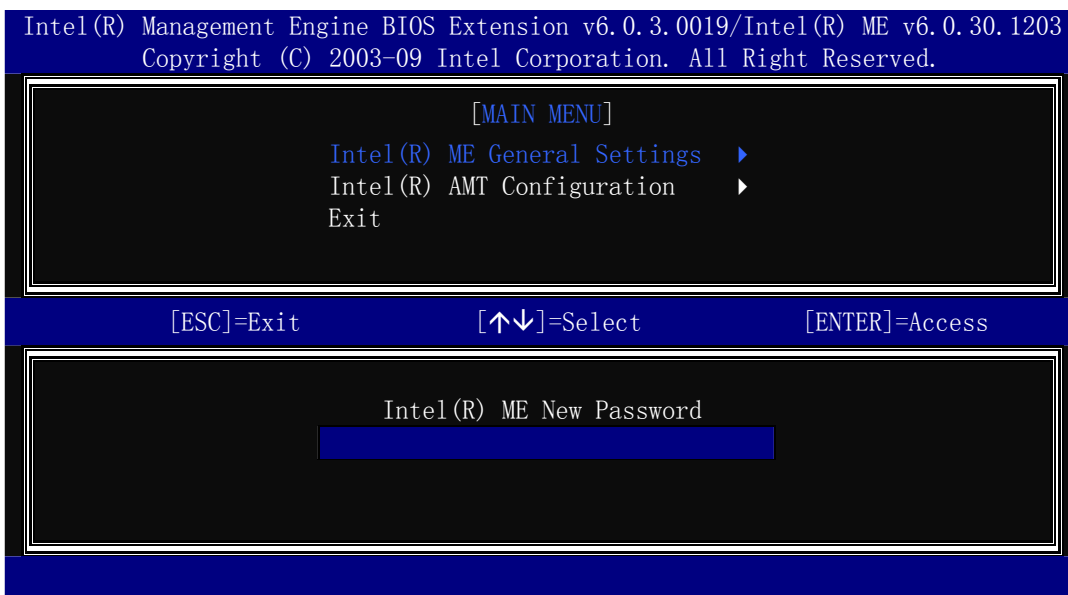

Figure A-3: Intel® ME New Password
Step 3: Enter a new password following the strong password rule (containing at least one upper case letter, one lower case letter, one digit and one special character, and be at least eight characters). **(Figure A-3)**